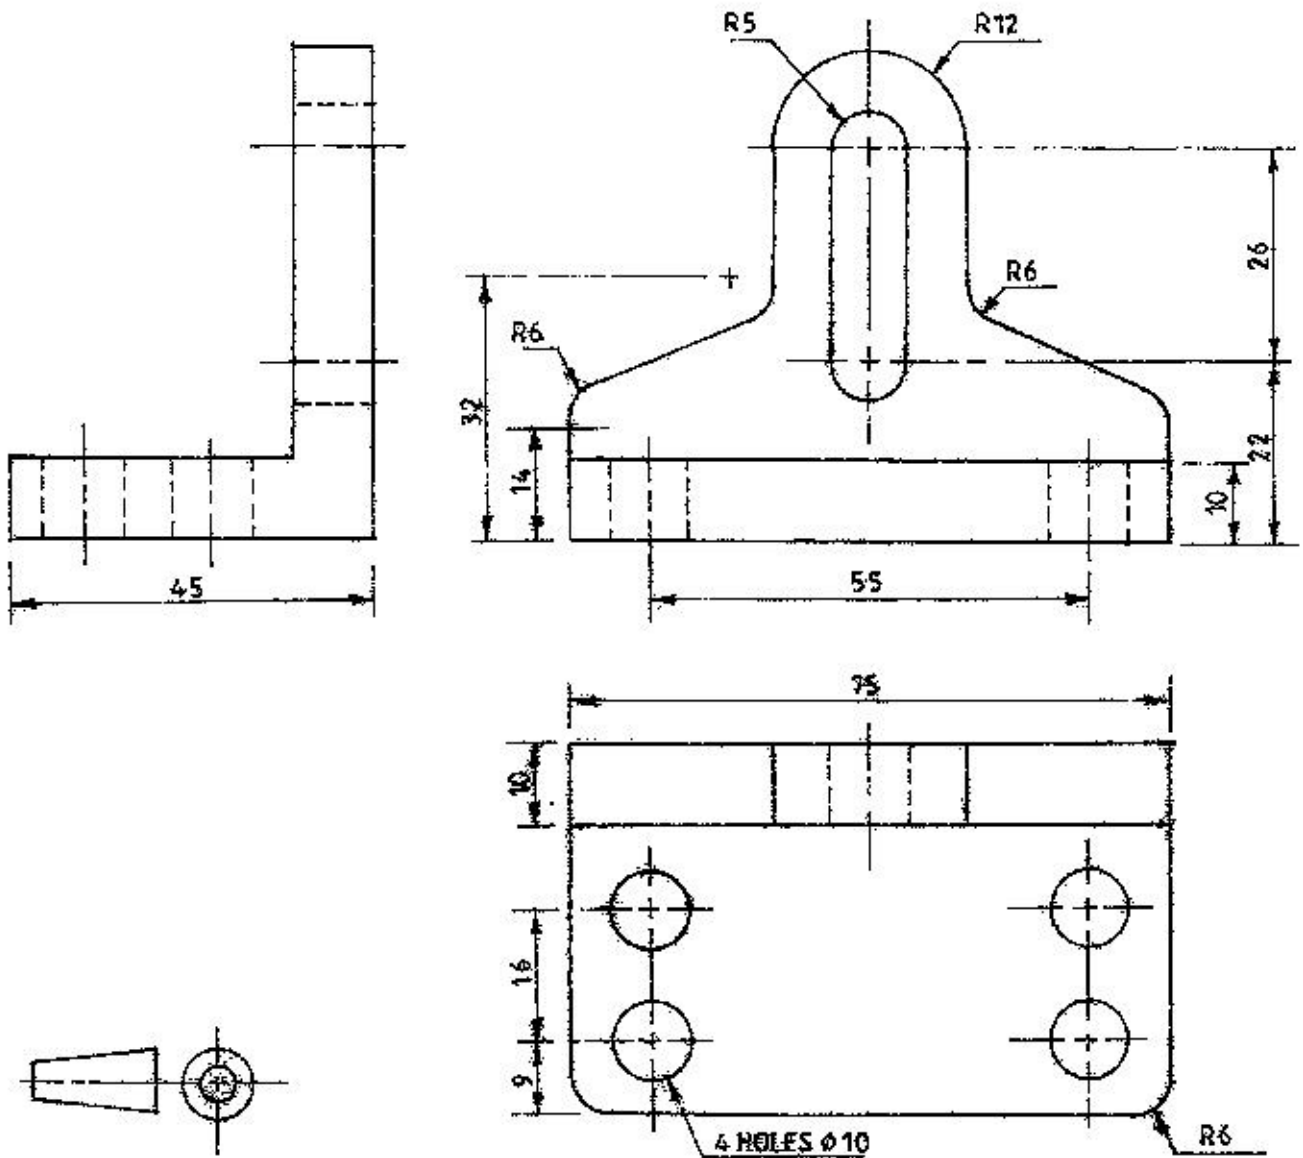

Fig. 2
3. Draw an isometric view of the clamp block shown in figure 2. Print your drawing in grey shading visual style. (20 marks)